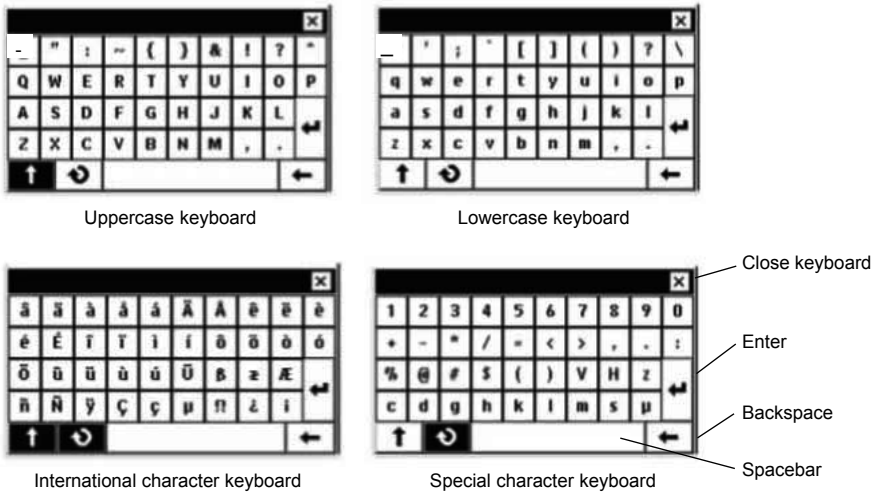

Figure 7. Programmer keyboards.
- **Keyboard**—The keyboard appears when the stylus contacts an input box that requires alphanumeric input. To enter data, select each character. Four keyboards are available (Figure 7):